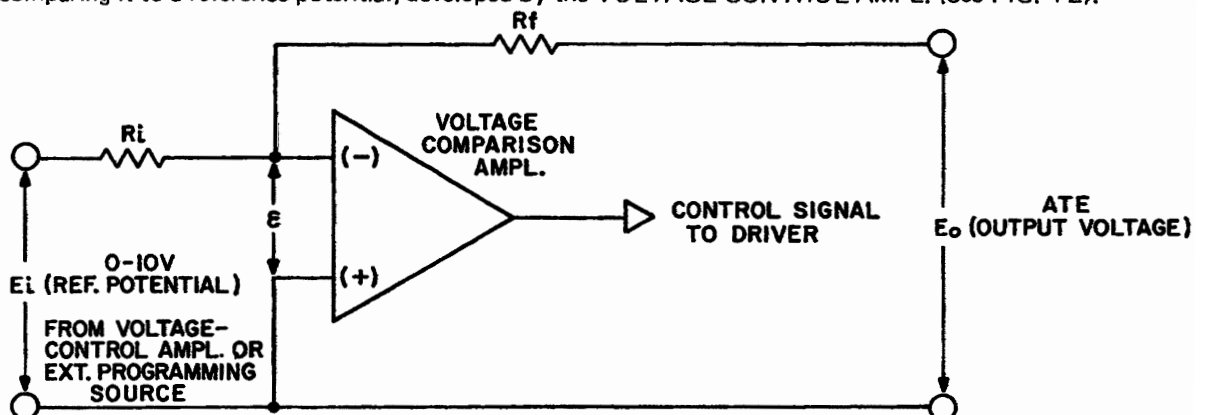

FIG. 4-2 VOLTAGE COMPARISON EQUIVALENT CIRCUIT.
- 4-4 In the voltage mode of operation, the VOLTAGE-COMPARISON AMPL. senses any change in the output voltage by comparing it to a reference potential, developed by the VOLTAGE CONTROL AMPL. (See FIG. 4-2).